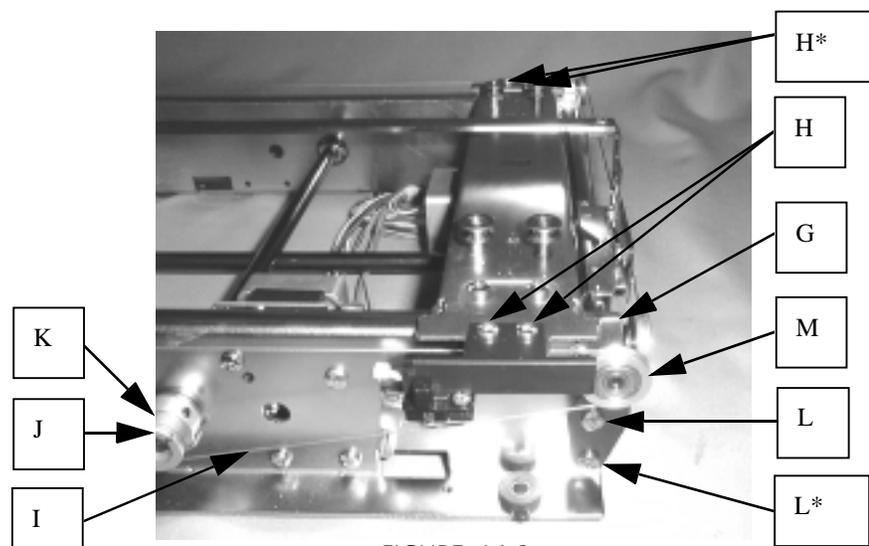

FIGURE 14-2
3. Bring the Y-carriage (F) toward the sensor until it touches stopper (G) as shown in Fig.14-2.
4. Remove setscrews (H)(H\*), and separate the wire (I) and Y-carriage from each other. Fig14-2.
5. Fix the wires being wound on the pulleys securely by grip bands (K) so that the right and left wires (I) are not loosened from pulley (J) as shown in Fig.14-2.
6. Loosen setscrew (L\*) and setscrew (L), and tilt down wire pulley (M). Fig.14-2.